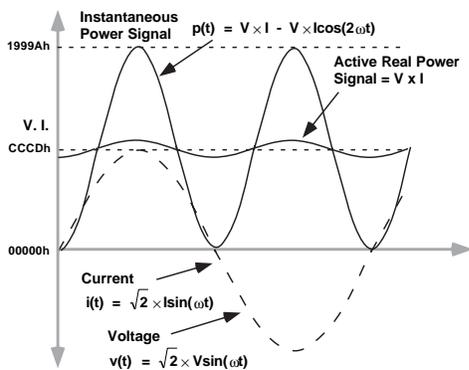
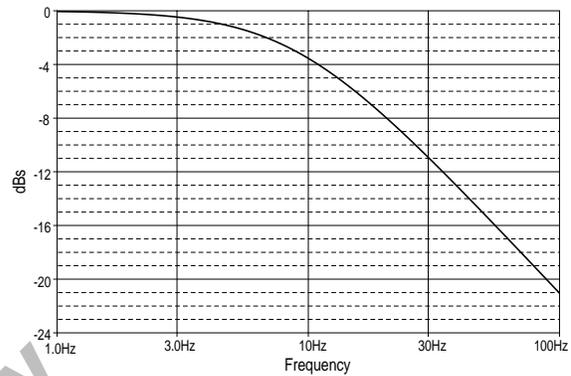

Figure 28– Active Power Calculation
Figure 29 —Frequency Response of LPF2
P is referred to as the Active or Real Power. Note that the active power is equal to the dc component of the instantaneous power signal $p(t)$ in Equation 3, i.e., VI . This is the relationship used to calculate active power in the AD7756. The instantaneous power signal $p(t)$ is generated by multiplying the current and voltage signals. The dc component of the instantaneous power signal is then extracted by LPF2 (Low Pass Filter) to obtain the active power information. This process is illustrated graphically in Figure 28. Since LPF2 does not have an ideal “brick wall” frequency response—see Figure 29, the Active Power signal will have some ripple due to the instantaneous power signal. This ripple is sinusoidal and has a frequency equal to twice the line frequency. Since the ripple is sinusoidal in nature it will be removed when the Active Power signal is integrated to calculate Energy – see *Energy Calculation*.
As mentioned in the last section, the discrete time sample period (T) for the accumulation register is 1.1µs (4/CLKIN). With full-scale sinusoidal signals on the analog inputs and the Active Power Gain register set to 000h, the average word value from LPF2 is CCCDh - see figures 28 and 31. The maximum value which can be stored in the Active Energy register before it over flows is 2³⁹ or 3F,FFFF,FFFFh. Therefore the integration time under these conditions is calculated as follows: